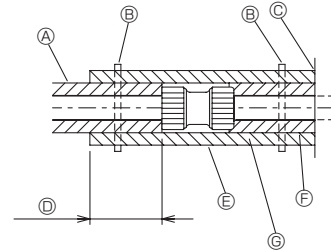

Fig. 4-6
2. Be sure to add insulation work to water piping by covering water pipework separately with enough thickness heat-resistant polyethylene, so that no gap is observed in the joint between indoor unit and insulating material, and insulating materials themselves. When insulation work is insufficient, there is a possibility of condensation, etc. Pay special attention to insulation work in the ceiling plenum. (Fig. 4-6)